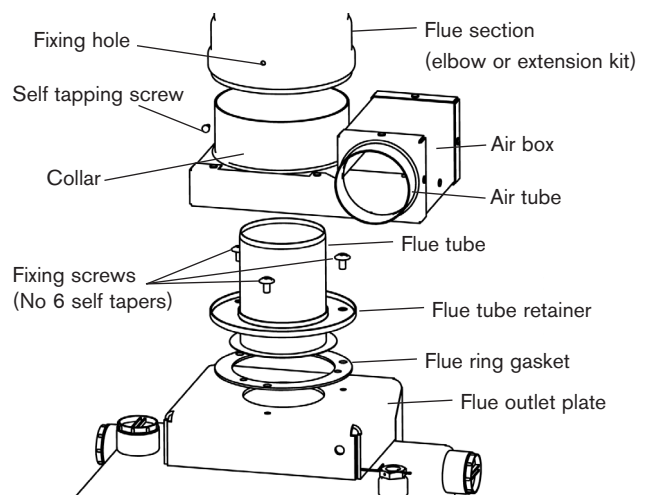

Fig. 4. Air Box Assembly
6.5. Position the new flue ring gasket on the flue outlet plate and clamp the flue tube in place using the flue tube retainer and screws as shown in fig 4.
6.6. When fitting an elbow directly to the air box, push the elbow fully down on the air box collar and rotate the elbow to the required position (left, rear or right) ensuring that the air tube is pointing to the front of the appliance as shown in fig 4.
6.29. Position the new flue ring gasket on the flue outlet plate and clamp the flue tube in place using the flue tube retainer and screws as shown in fig 4.
6.30. When fitting an elbow directly to the air box, push the elbow fully down on the air box collar and rotate the elbow to the required position (left, rear or right) ensuring that the air tube is pointing to the front of the appliance as shown in fig 4.